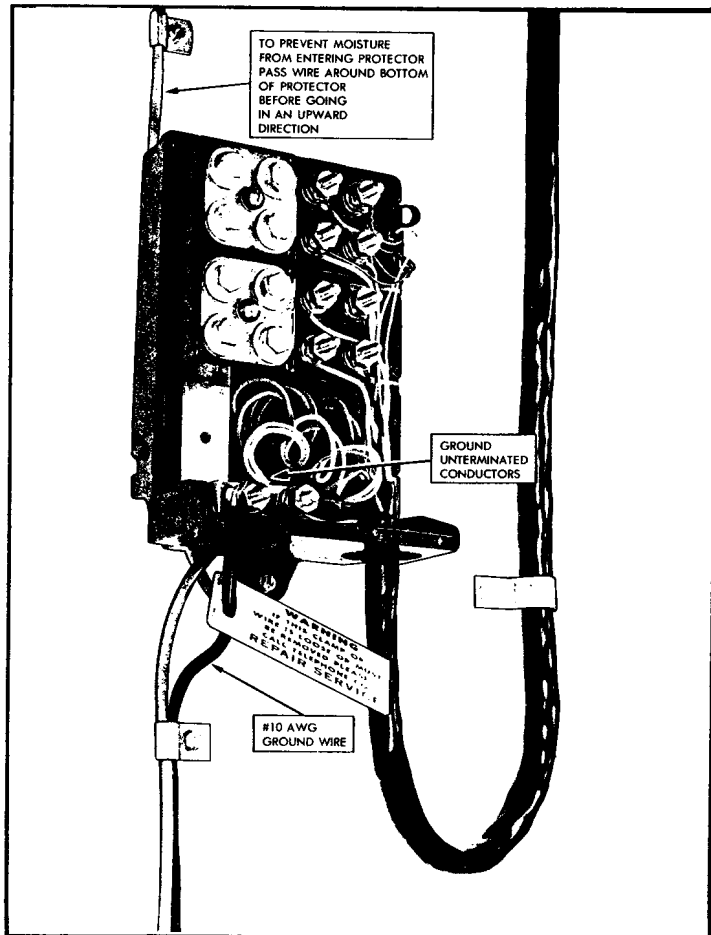

FIGURE 12. Typical Installation of Fuseless Multiple Protector 502A1 Type with Two 492 Protector Modules
f. Figure 12 shows a typical installation of a multiple type fuseless protector.